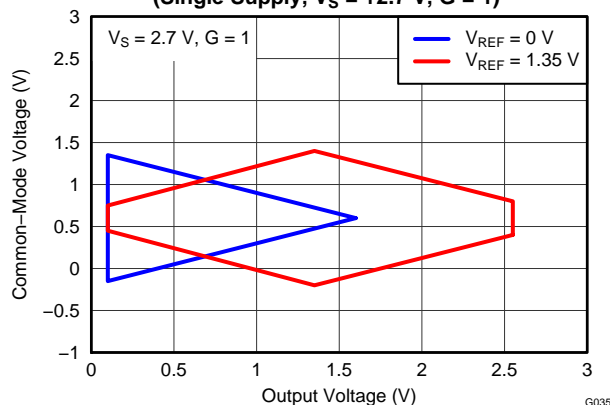

Figure 9.
(1) Total offset, referred-to-input (RTI): $V_{\text{OS}} = (V_{\text{OSI}}) + (V_{\text{OSO}}/G)$.
(2) Input voltage range of the INA826 input stage. The input range depends on the common-mode voltage, differential voltage, gain, and reference voltage. See Typical Characteristic curves Figure 9 through Figure 16 and Figure 41 through Figure 44 for more information.